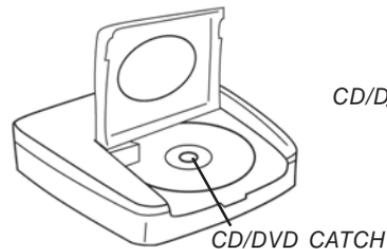

Figure 4
2. Place blank printable disc firmly onto the CD/DVD catch (Refer to Figure 4)